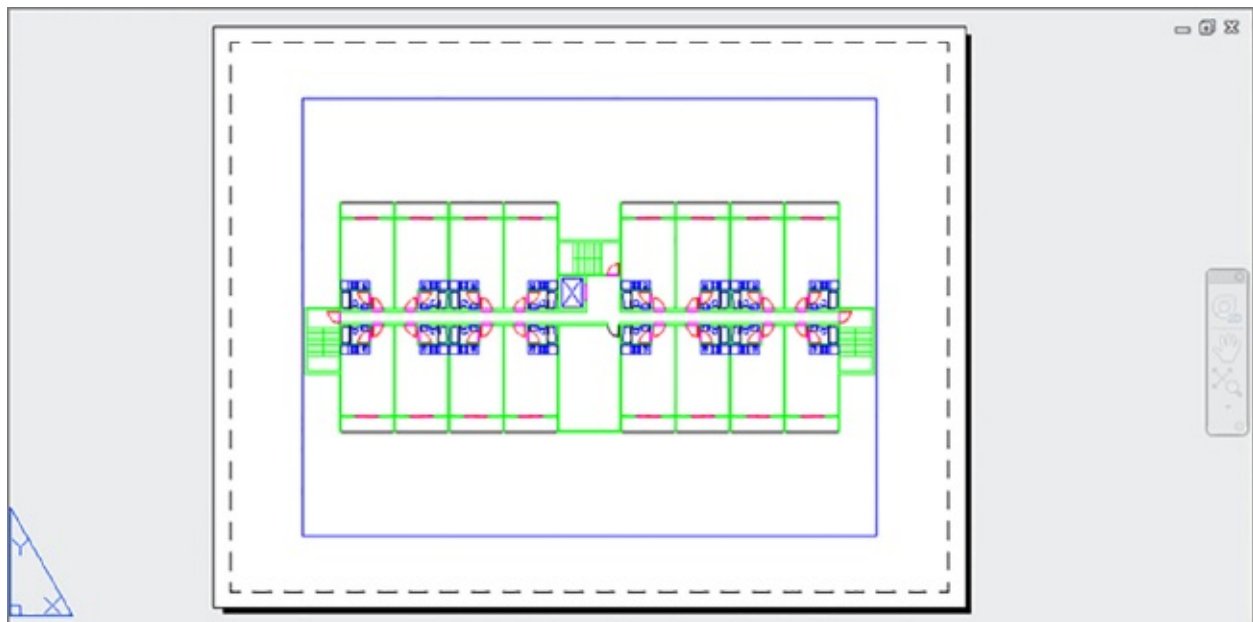

FIGURE 8.10 The enlarged viewport
4. Use the viewport grips to enlarge the viewport enough to display all of the drawing, as shown in Figure 8.10. As you move a corner grip, notice that the viewport maintains a rectangular shape.